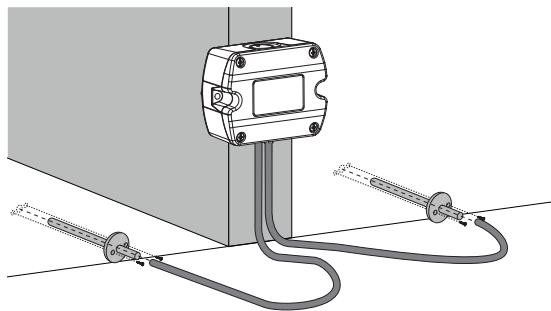
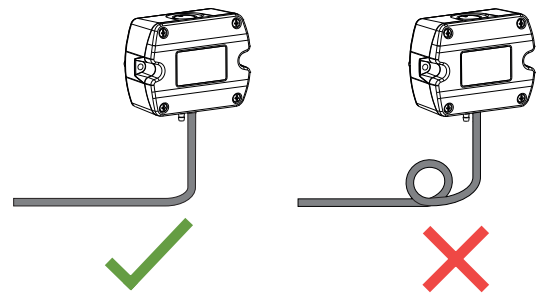

Fig. 6 Pressure connection
Fig. 7 Pressure hose route
- Connect the pressure hose (available as an optional accessory) first to the EE600 and then to the duct. Route the pressure hose to avoid sharp bends which might lead to hose obstructions (Fig. 6 and Fig. 7).